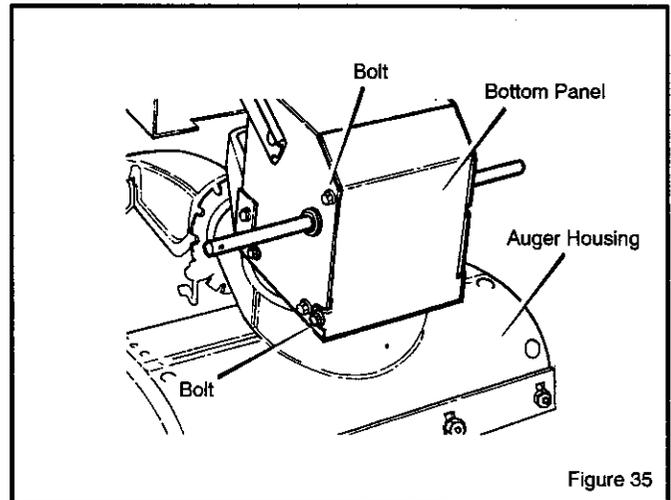

Figure 35
2. Loosen the **bolts** on each side of the **bottom panel** (see Figure 35).
18. Install the **bottom panel** (see Figure 35).
13. Install the **bottom panel** (see Figure 35).